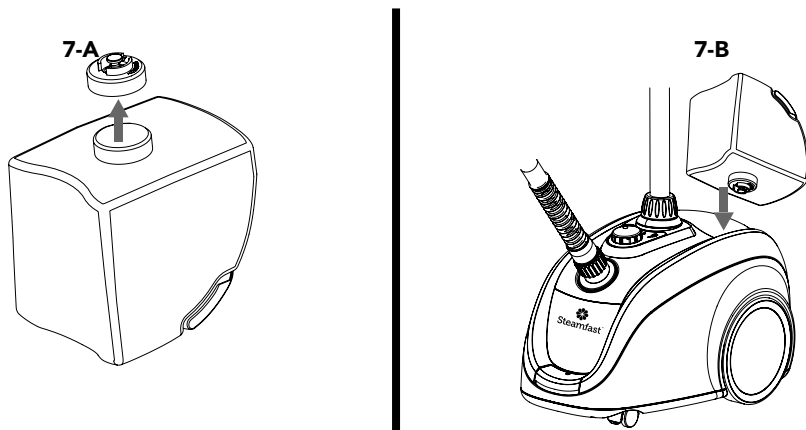

FIGURE 7
2. Holding Water Tank upside-down, unscrew and remove Valve Cap by rotating it in a counterclockwise direction (FIGURE 7-A).
5. Place Water Tank back onto main unit (FIGURE 7-B). The sound of water flowing from Water Tank into Water Reservoir should be audible for a short period of time.